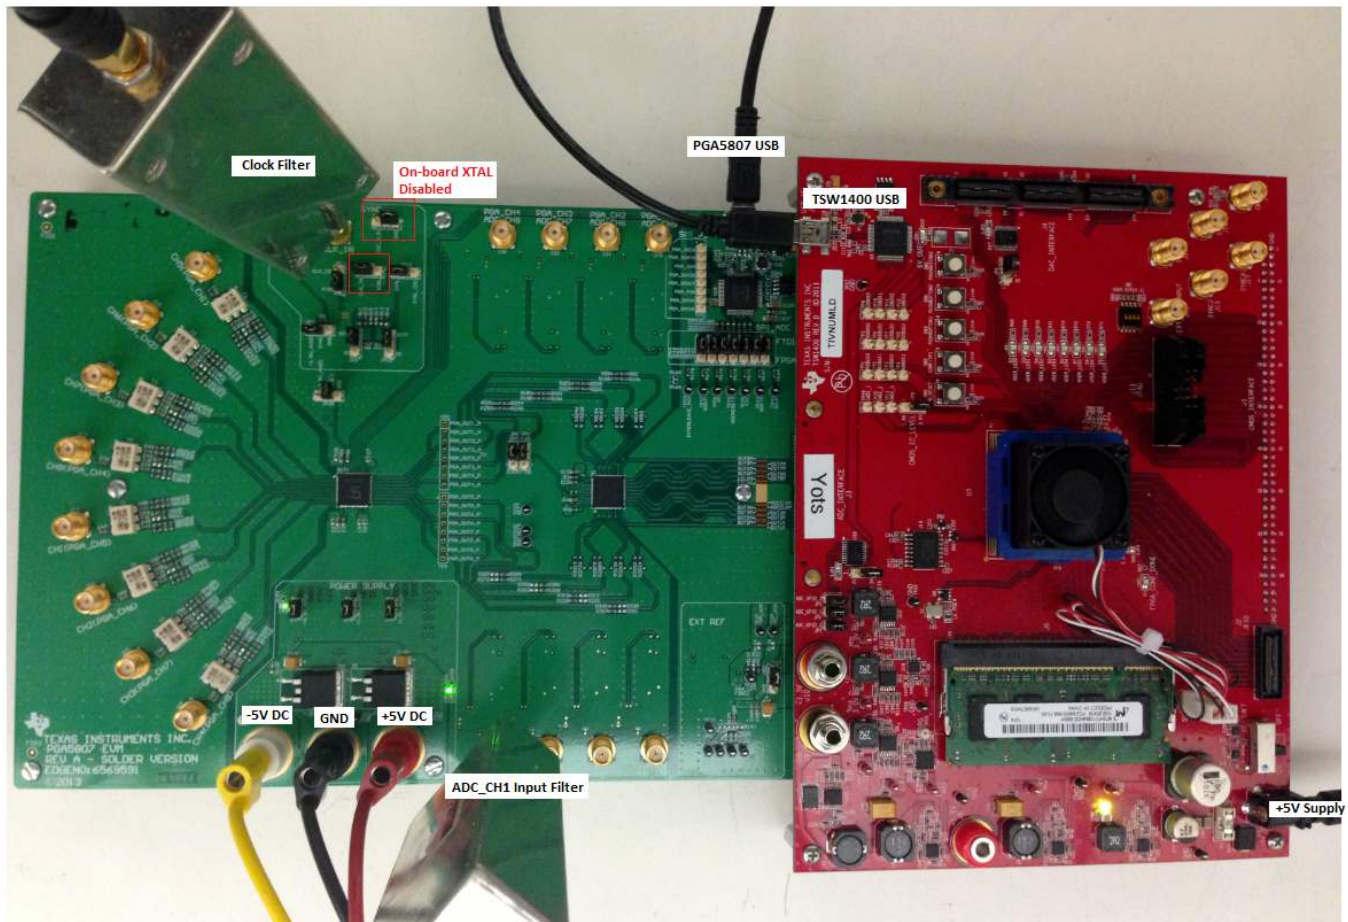

Figure 40. PGA5807 EVM Setup for ADS5296 Only Testing
2. With the setup established in Figure 40, perform the following steps: